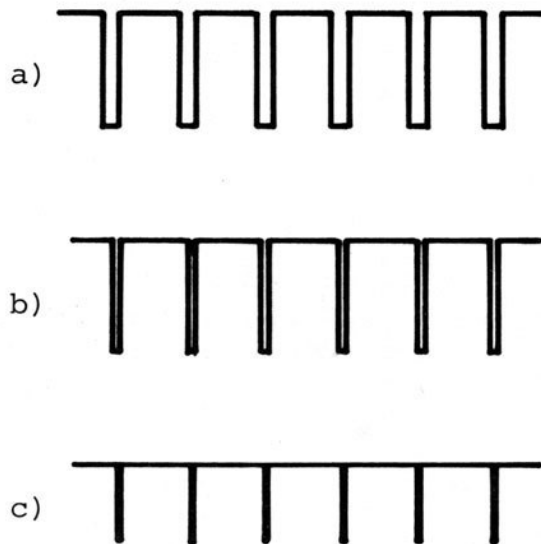

Figure 5-12. Output waveform at the test point.
3. Adjust VR5 so that an output waveform shown in Figure 5-12, a) can be observed.
4. Next, make slight readjustments of VR5 so that a waveform shown in Figure 5-12, c) can be obtained when the frequency is changed to 1200 Hz. Then make sure that both waveforms shown in Figures 5-12, a) & c) can be obtained when signal frequency is set to 800 Hz and 1200 Hz alternately.
2. Adjust VR5 by changing the input signal frequency so that the output waveforms as are shown in Figure 5-12,b) can be obtained at 795 Hz and 1205 Hz, respectively.